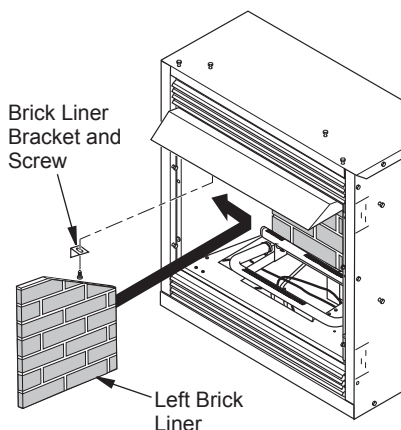

Figure 29 - Installing Side Brick Liners
3. Install left and right brick liners using brackets and screws from hardware kit as shown in Figure 29. Screw the bracket into top of firebox and against brick liners. Adjust bracket before tightening screw.